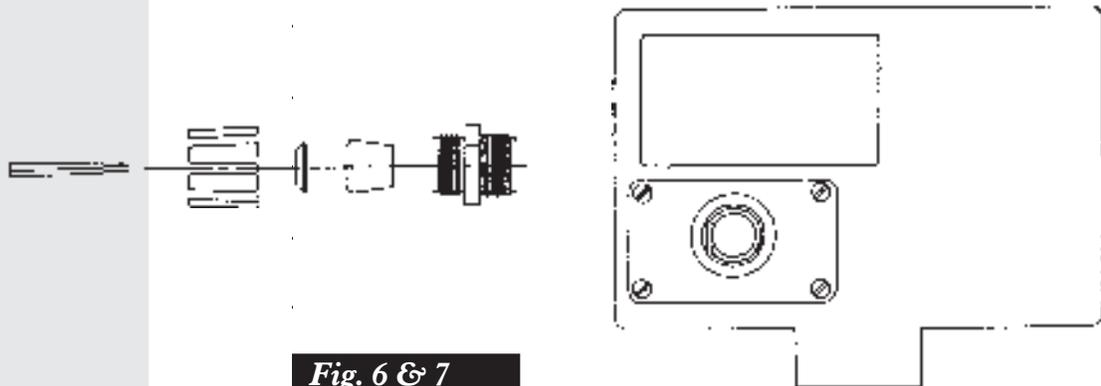

Fig. 6 & 7
Wiring for all models is accomplished at rear of the gauge enclosure. A separate kit included with gauge contains different size strain reliefs to facilitate use with various gauge wire. Insert wire through correct relief fitting and assemble strain relief as shown in Figure 6. Attach strain relief assembly to gauge enclosure using four screws provided in kit, as shown in Figure 7.
2. Connect the 115 or 230 VAC power supply leads to Terminals 1 and 2 on the terminals 1 and 2 on the terminal block at the end of the power supply printed circuit board and feed these through the strain relief. (See Fig. 6)